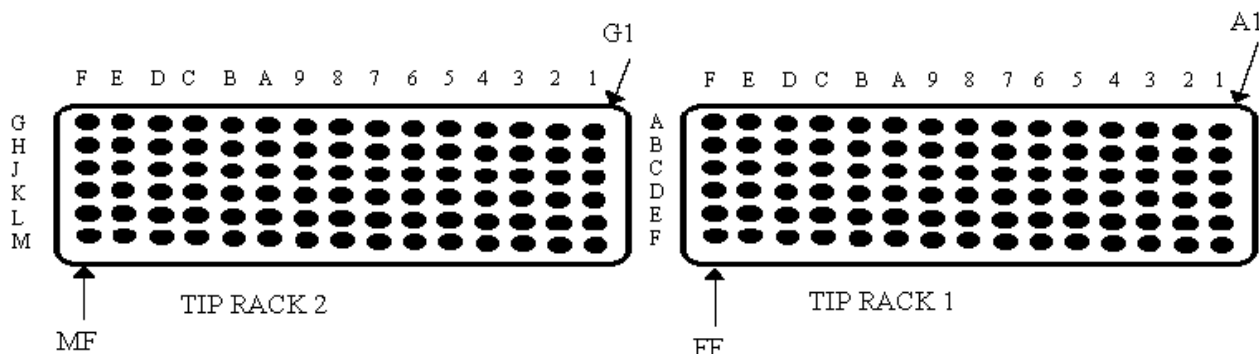

Figure 5-9. Tip Pack 1 and 2
4. Pipettor moves to Tip Rack 1 Left location FF. See Figure 5-9 below.
3. Pipettor goes to Right Rack 1 location A1. See Figure 5-9.
4. Pipettor goes to Tip Rack 2 left location MF. See Figure 5-9.
3. Pipettor moves to Tip Rack 2 location G1. See Figure 5-9.